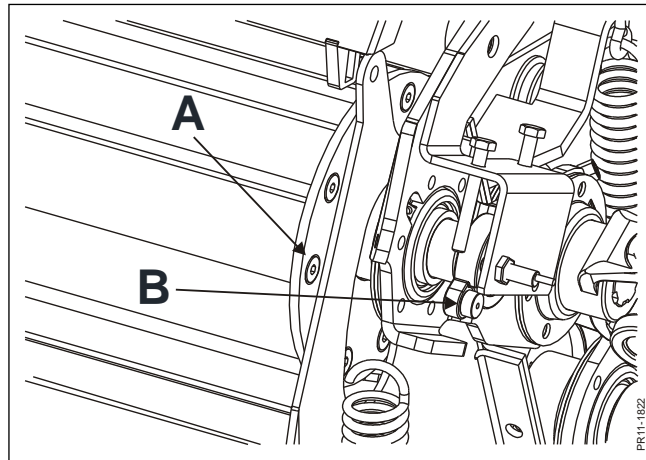

Fig. 5-4
**Fig. 5-4** To safeguard against faulty operation following metal detection and ensure that any metal has been removed before restarting, the electronics do not permit a normal feed intake function until the feed intake has reversed briefly. The magnetically operated switch **B** is operated through feed roller **A** during the reversing. This sends a signal to the microprocessor that reversing has been completed and the stop system with the pawl will be reset.